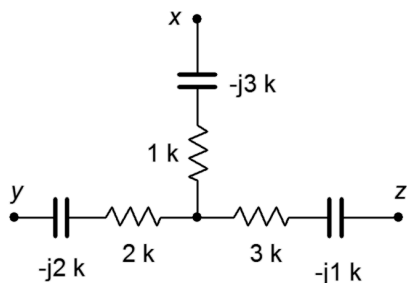

Figure 5.34
60. Determine the equivalent delta (pi) network for the circuit of Figure 5.34.